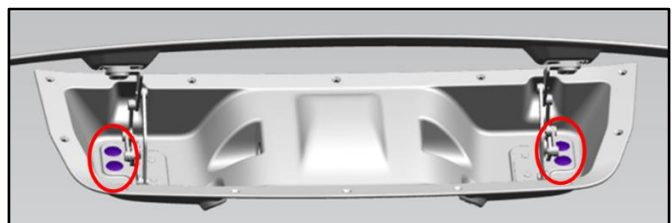

Figure 9
7. Remove the access hole plugs. Use a trim removal tool to do this. (Refer to Figure 9.)